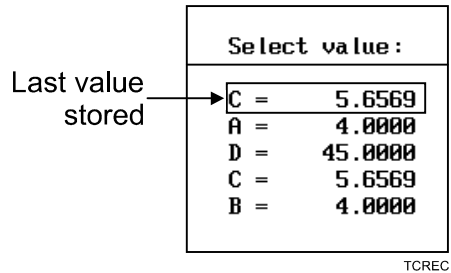

Figure 12-8, Triangle Calculator Select value: Pop-up Menu
3. Highlight the **Triangle Calculator** template, and press **ENTER** to display the Triangle Calculator **Select value:** pop-up menu. Refer to **Figure 12-8**.